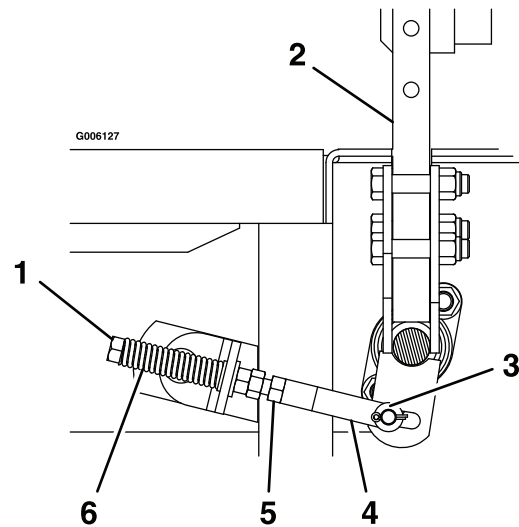

Figure 19
3. Begin with either the left or right motion control lever. Move lever to the neutral position and pull lever back until the clevis pin (on arm below pivot shaft) contacts the end of the slot (just beginning to put pressure on spring). (Figure 19).